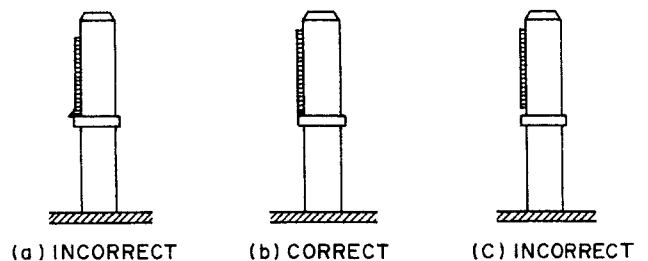

Fig. 4-3
- 4) Slightly turn the Ⓐ screw until the tape edge barely touches the lower part of the TAKE-UP TAPE GUIDE without any curl or wrinkle as shown in Fig. 4-3.
4) Slightly turn the (A) screw until the tape edge barely touches the lower part of the TAKE-UP TAPE GUIDE without any curl or wrinkle as shown in Fig. 4-3.
5) Adjust the head azimuth again. (Turning the hexagon screw, or (A) screw, will cause head azimuth misalignment. Refer to 4-3-1. Azimuth adjustment.)